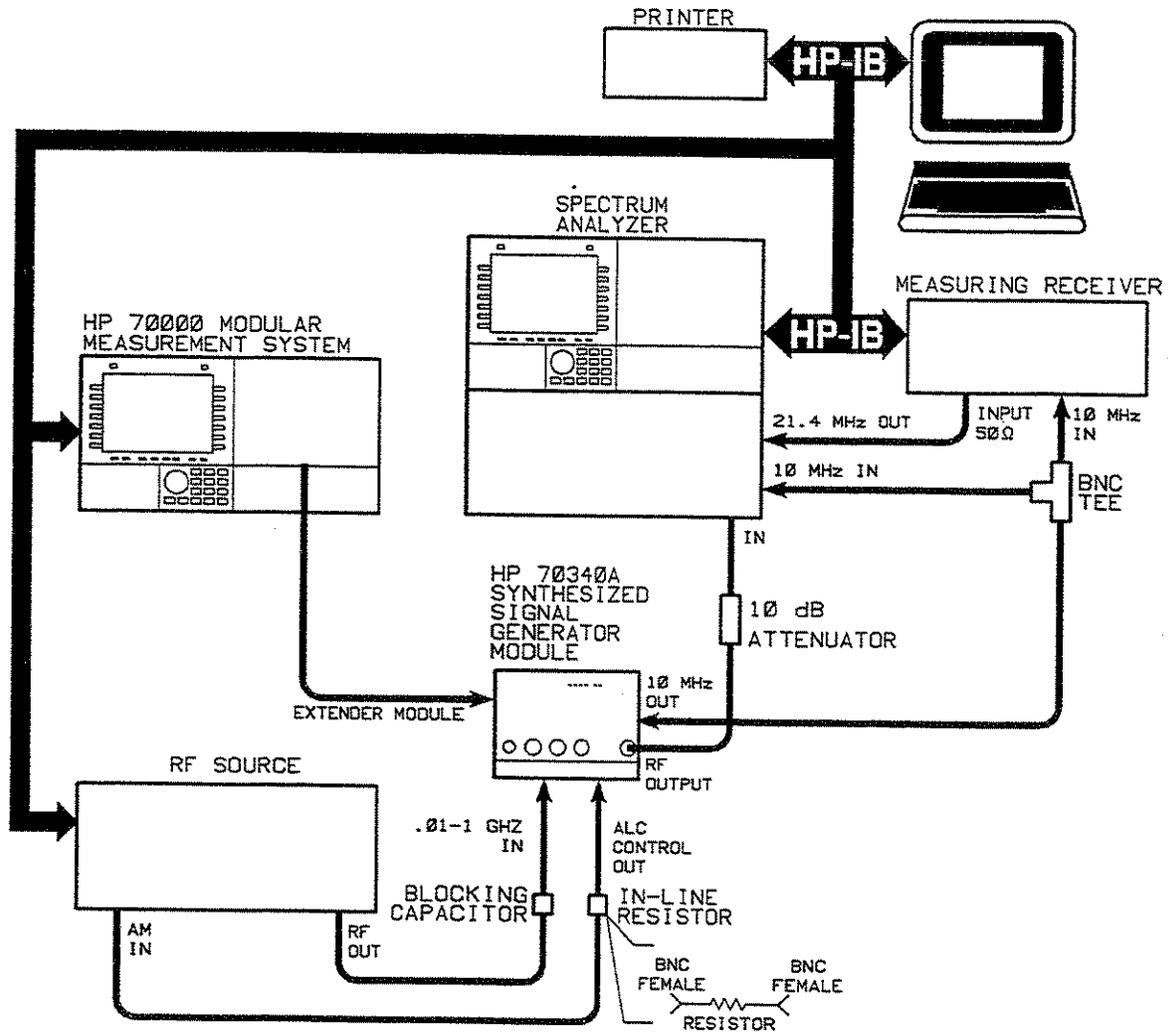

Figure 3-13. Attenuator Low Band Calibration Equipment Setup - Part 2
- a. When instructed by the computer to disconnect the power meter and connect the spectrum analyzer and measuring receiver, refer to Figure 3-13.